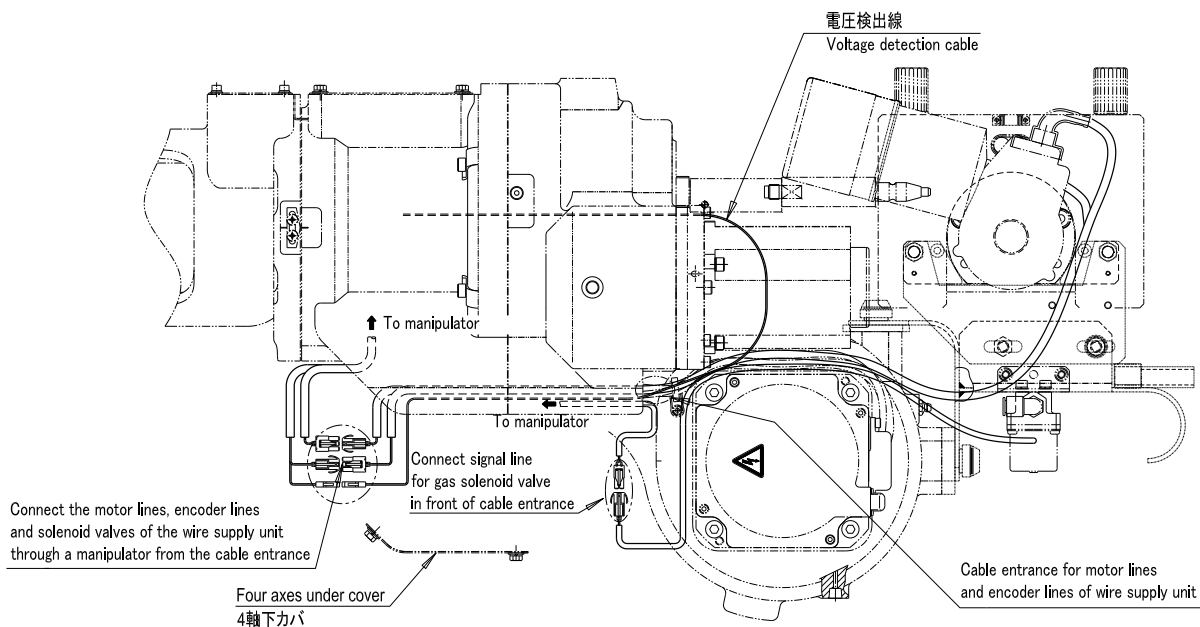

Fig.5.4 Attaching to NB15 manipulator (procedure (8)~(12))
- (8) Remove the 4th axis lower cover from the entire 4th axis cover of the robot. (See Figure 5.4.)
- (9) Pull the wire from the 4th axis cover. Remove the PE bag once, which protects the connector.
- (10) As shown in Figure 5.4, pull the motor line, encoder line and voltage detection line from the hole where the 4th axis lower cover has been removed.
- (11) Connect the wire supply unit to the main unit cable. For further information on cable connection, see the electrical circuit diagram in Section 10.
- (12) After completion of connection, insert the connector in the PE bag removed in (9), tighten the opening of bag using a cable tie and store it inside the 4th axis cover. Then, reattach the 4th axis lower cover to the original position.